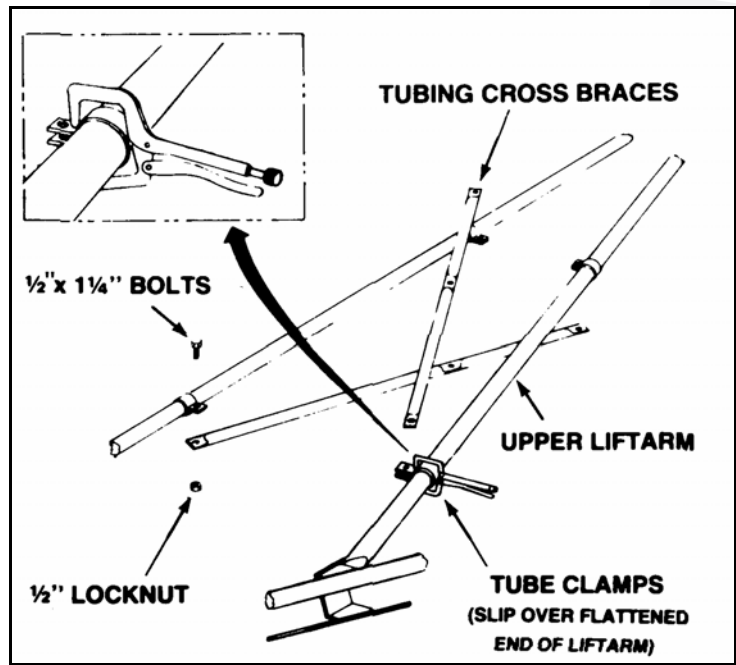

Figure 3.24
- Use a c-clamp vise grip to squeeze and hold the tube clamps in position for attachment to the tubing cross braces. Once in position, tighten the bolts (Figure 3.24).